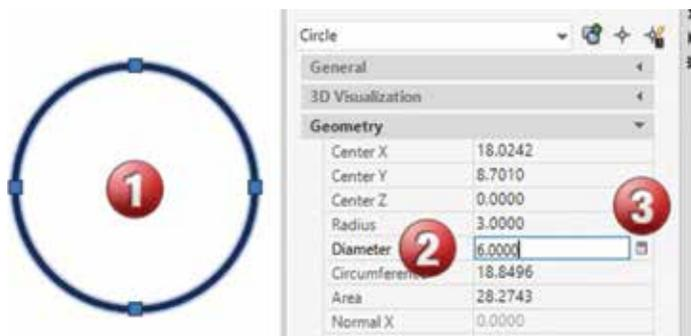

Figure 9
1. Draw a circle and give it a diameter of 6 units (ft.) We will be using 1 unit to represent 1 foot. Type CTRL+1 and open the Properties palette and pull down the Geometry section as shown in Figure 9.